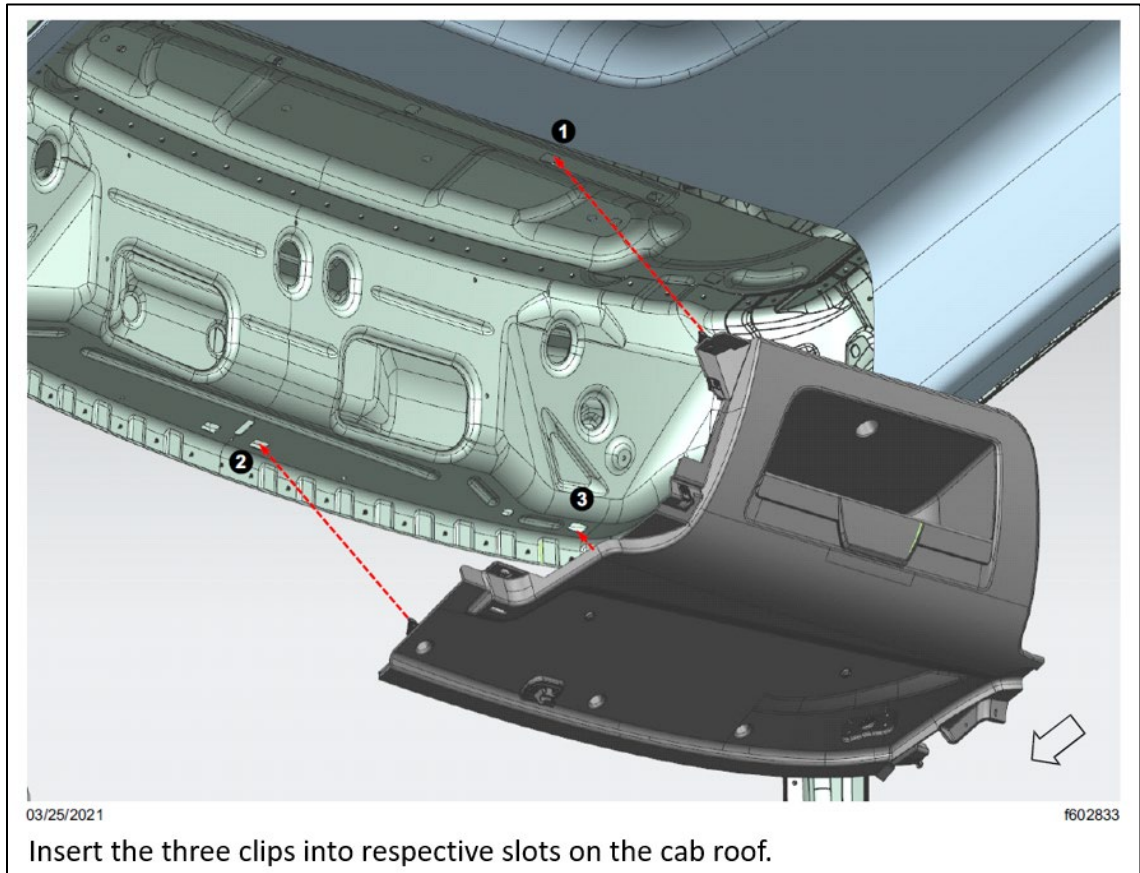

Fig. 23, Place the RH Side Overhead Storage Unit
- 6.1. Insert the clips on the RH side overhead storage cabinet into their respective slots on the cab roof as shown in **Fig. 23**.